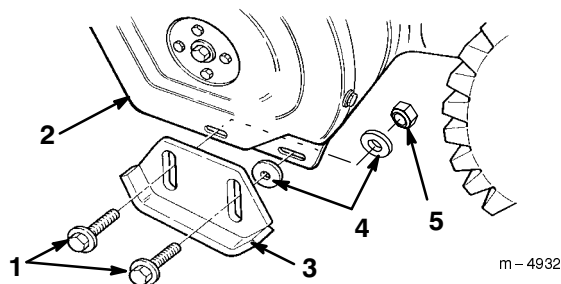

Figure 17
3. Remove the two flange bolts and flat washers that secure the ends of the scraper to the side plates (Fig. 17).
5. Insert a washer **between each skid and the side plate** (Fig. 17). Do not tighten the bolts.
7. Insert a washer and a locknut **behind (on the inside of) the side plate** (Fig. 17). Do not tighten the bolts.